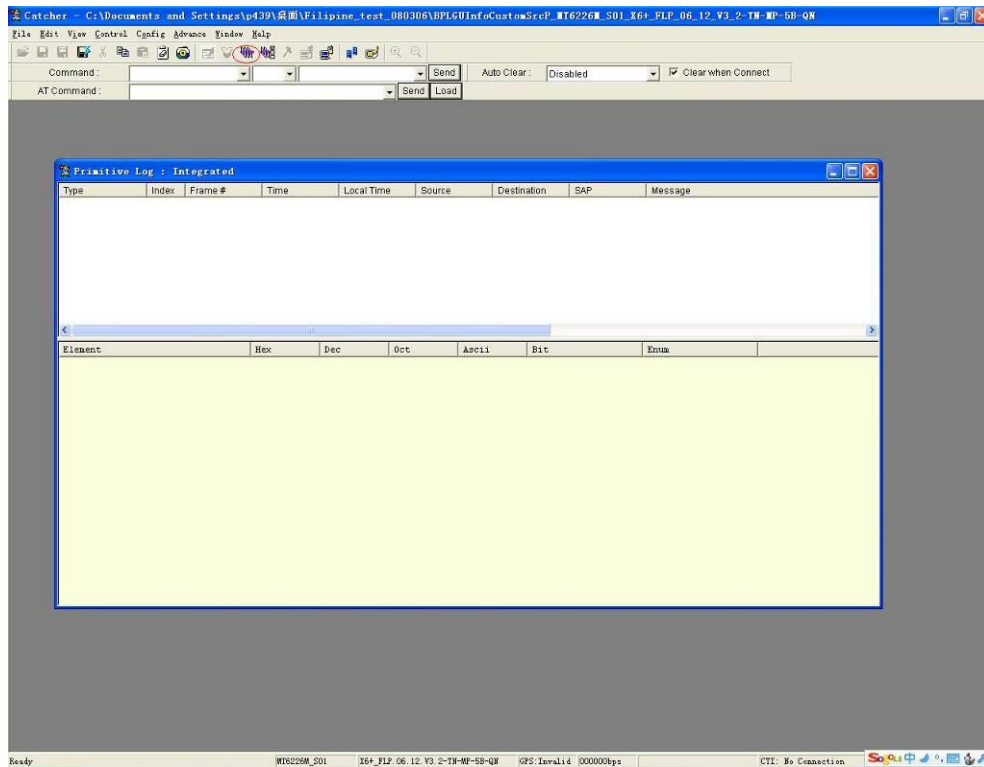
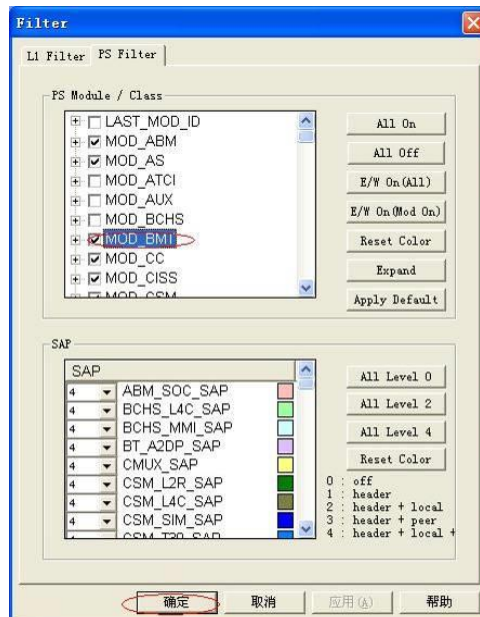

Figure 14
Figure 15
Figure 6 When you examine the master phone’s problems, choose the master phone software’s database file, and when the slave phone’s problems, the slave phone’s database file. The database in the phone must be exactly the same as the chose database for Catcher, or the figure 14 will occur when the Catcher work.
5.2 Click "Filter" in figure 14, choose some items in figure 15, and then click ok in figure 15. (Please query us if you need to choose the filter settings)